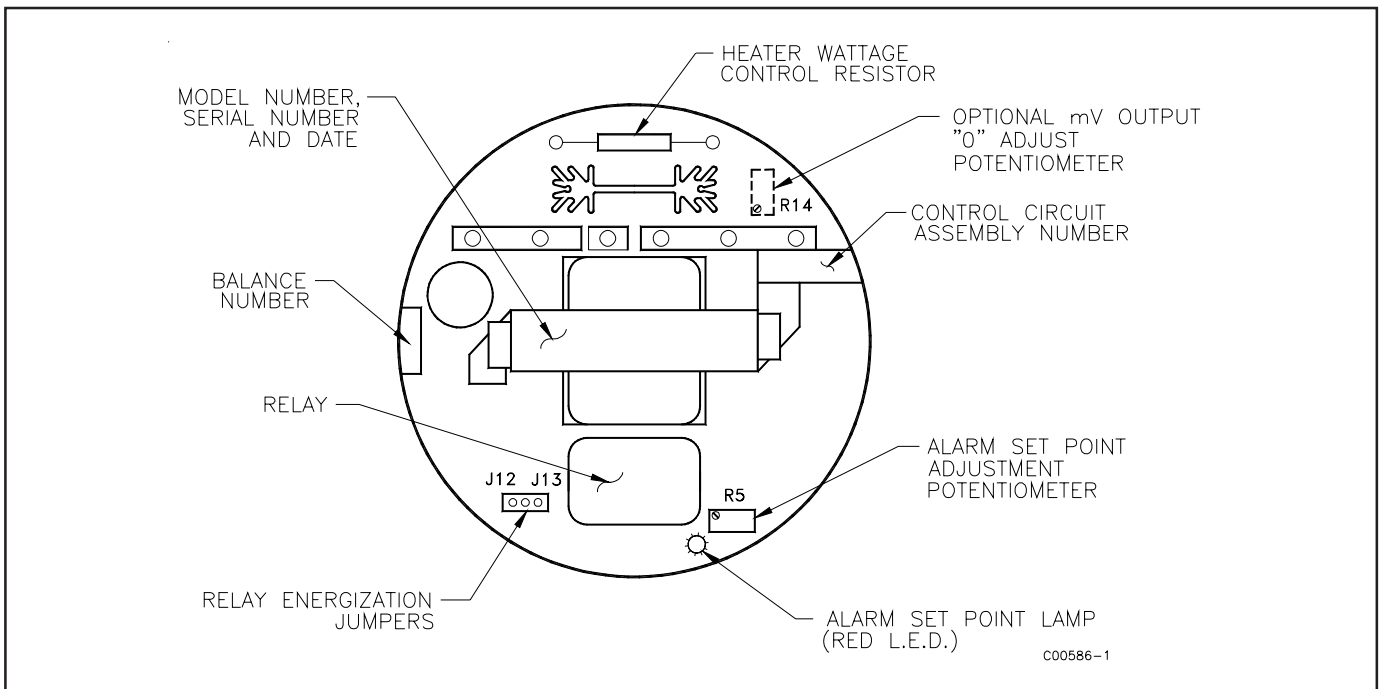

Figure 3 - Control Circuit 5181 Outline Drawing
3. Locate the potentiometer (R5) and the red LED on the control circuit. (See Figure 3.)